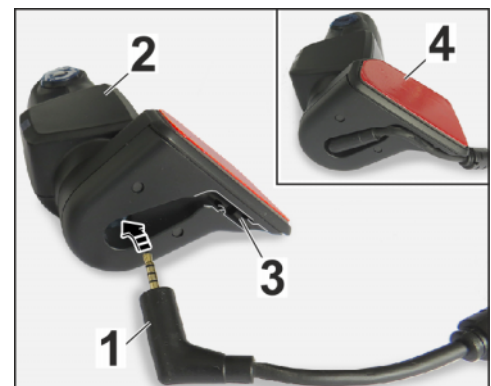

Figure 17
- 3.4.1 Insert jack plug for wire harness into rear camera (⇒ *Figure 17 -Arrow-*) and position line in cable duct.
- 3.4.2 Pull protective film (⇒ *Figure 17 -4-*) off the rear camera base.